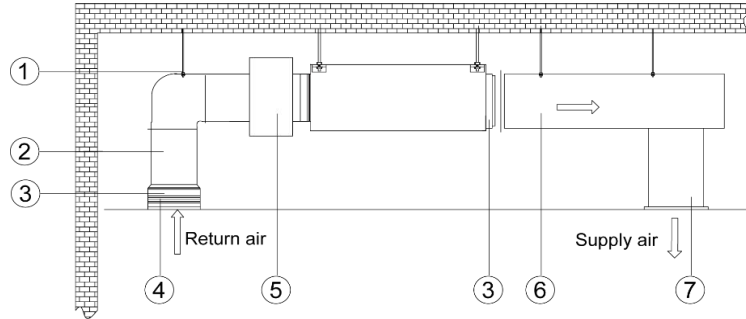

Fig20
1. Installation of the Rectangular Duct (Fig20)